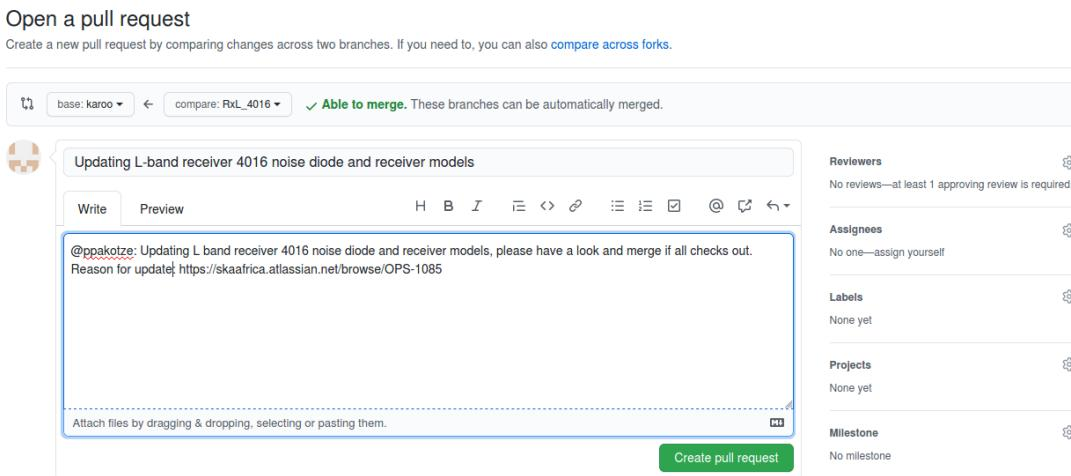

Figure 4.7: Github open pull request
- Then write a comment stating what you are doing, why (give Jira number if applicable) and make the request out to Pieter Kotze. See an example in **Figure 4.7**.